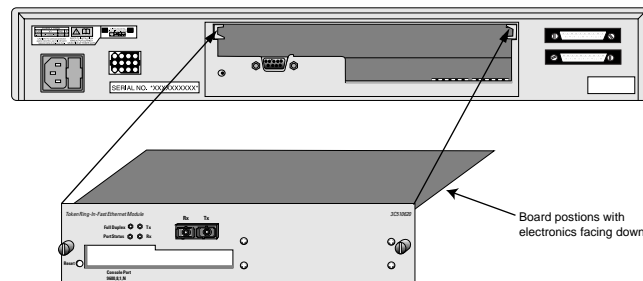

Figure 2-2 Inserting a Slide-in Module into a Switch 2000 TR
- 3 Locate and remove the blanking plate that covers the slot. See Figure 2-2. Retain the blanking plate and the screws for future use.
- 4 Use the guide rails within the Switch slot to align the module. The location of the guide rails and the correct positioning of the plate is shown in Figure 2-2.